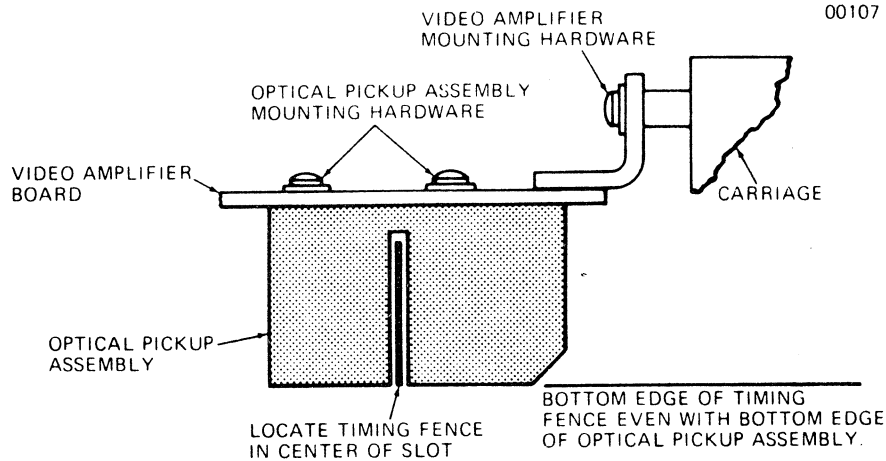

Figure 3-4. OPTICAL PICKUP ASSEMBLY ADJUSTMENT
1. Optical Pickup Alignment With Respect to Timing Fence (Refer to Figure 3-4)